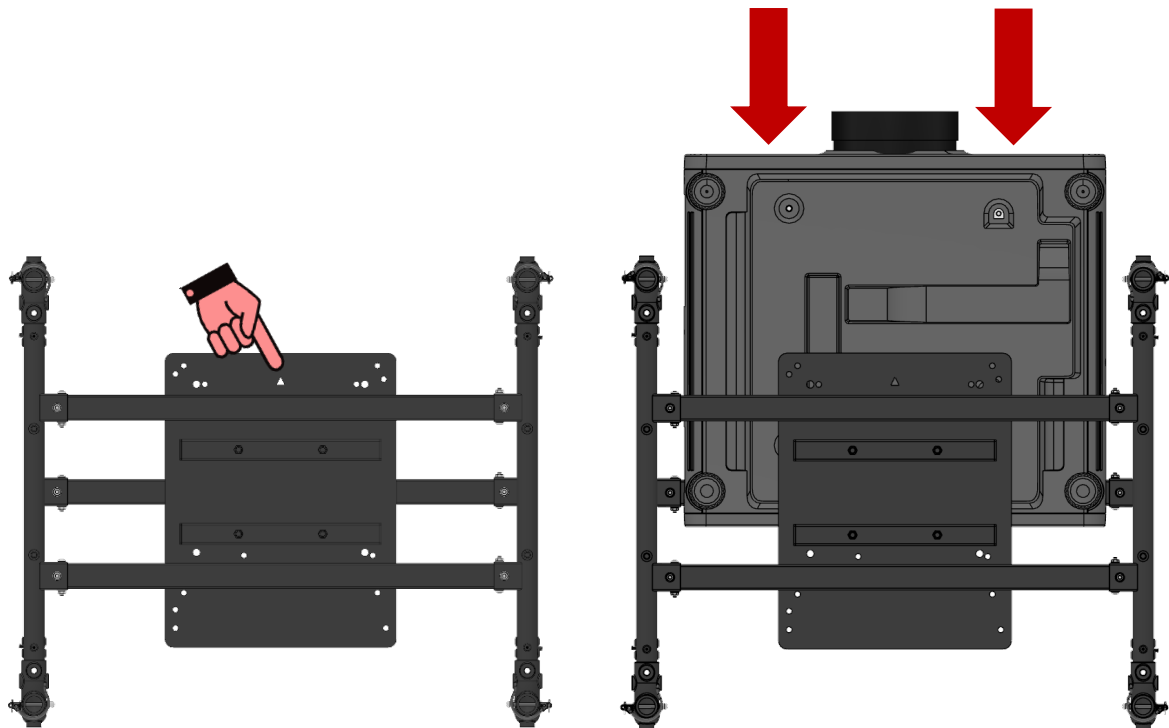

Figure 7 Mounting the projector into the frame
Step 2: Insert the projector into the frame from either the front or back side. Ensure that the projector is in the correct orientation so that its front and back positioning is accurate when placed inside the frame. The projector's lens must be at the front of the frame, which is identified by the triangle cutout (see pointing hand in Figure 7).